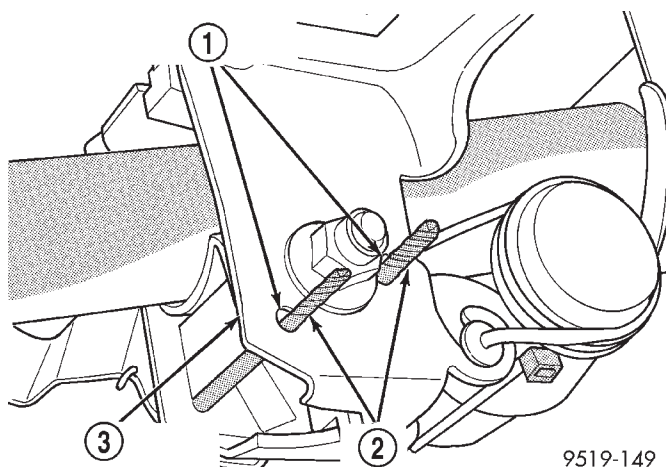

Fig. 25 Locking Pins Installed In Steering Column Bracket
(29) Place steering column so it is positioned in the middle of its tilt range. Place the steering column assembly tilt lever in its fully locked position. Then insert a 5/32 inch drill bit in each locking pin hole on the upper steering column mounting bracket (Fig. 25).
(3) Remove the 2 drill bits (Fig. 25) from the steering column upper mounting bracket. **If a new steering column is being installed in the vehicle, remove the shipping pin from steering column upper mounting bracket.**
(4) Ensure front wheels of vehicle are positioned straight-ahead, and steering wheel master serration in steering column shaft is positioned at 12 O'clock.
(5) Under the instrument panel, reconnect the intermediate shaft to the steering gear shaft. To do so, perform one of the following that applies: